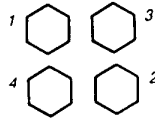

Figure 4.
22. Replace the four side rod nuts. Tighten in 20 ft.-lb./25 Nm increments to 75 ft.-lb./100 Nm in the pattern shown in Figure 4.